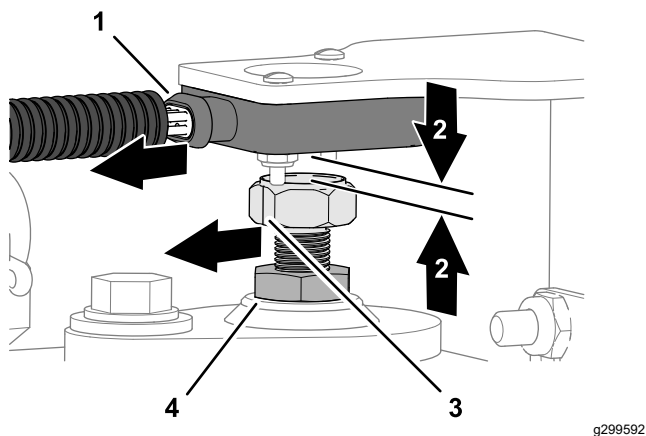

Figure 11
1. Adjust the position of the magnetic target until you measure a gap 4 mm (0.16 inch) between the target and the face of sensor (Figure 11).
2. Rotate the magnetic target until the indicator line that is stamped into the flat of the magnetic target aligns with the wiring port of the sensor (Figure 11).
3. Tighten the jam nut (Figure 11).
4. Measure the gap between the target and the face of sensor (Figure 11). You should measure 2 to 4 mm (0.08 to 0.16 inch).